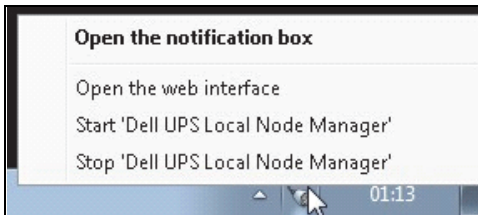

Figure 35. Systray Box Menu
- Right-click the System Tray icon to provide fast access to the functions shown in Figure 35.